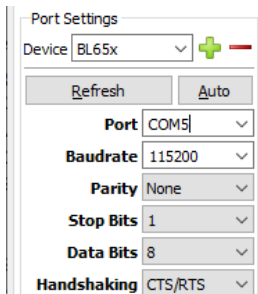

Figure 2: COM port settings
4. Open UwTerminal with the settings shown in Figure 2.